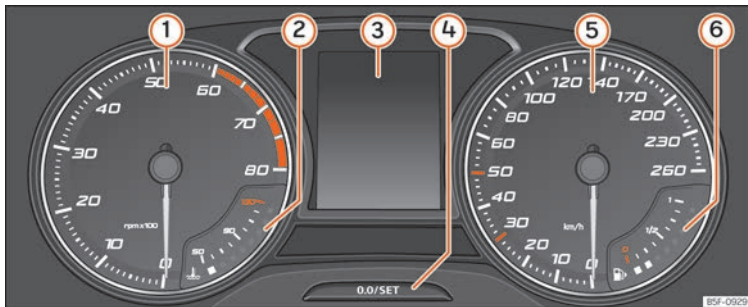

Fig. 74 Instrument panel, on dash panel.
Details of the instruments » **Fig. 74:**
- Briefly press the button   **Fig. 74**